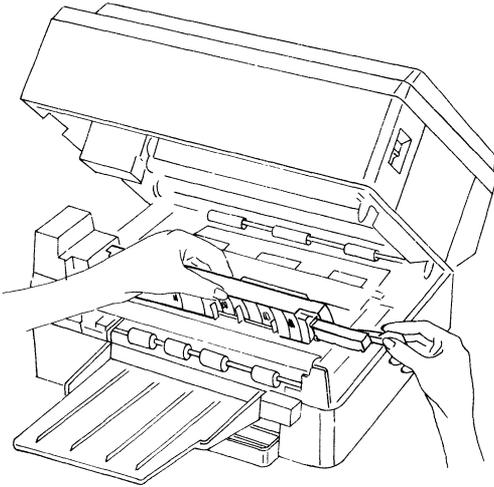

Figure 7: Inserting the Fixing Assembly Cleaner
3. Open the fixing assembly cover and insert the cleaner into the groove on the underside of the cover. (See Figure 7.)